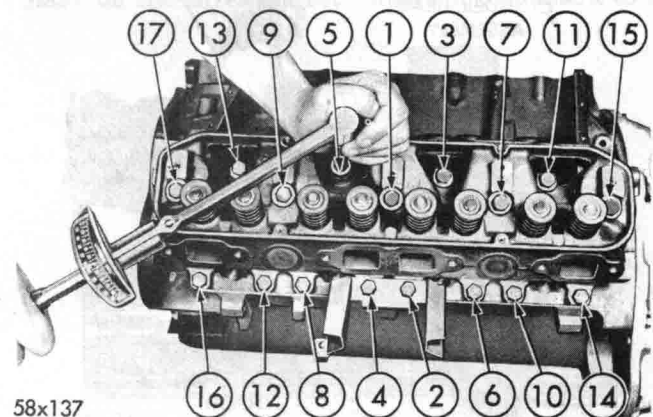

Fig. 17—Cylinder Head Tightening Sequence
- (2) Check all surfaces with a straightedge if there is any reason to suspect leakage.
- (3) Coat the new gaskets with MoPar number 1122893 sealer. Install the gaskets and cylinder heads.
- (4) Install cylinder head bolts. Starting at top center, tighten all cylinder head bolts to 70 foot-pounds torque in sequence, as shown in Figure 17.